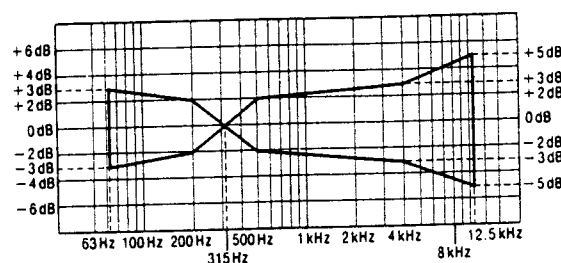

Fig. 10
2. Assure that the frequency response is within the range shown in Fig. 10 for both L-CH and R-CH.